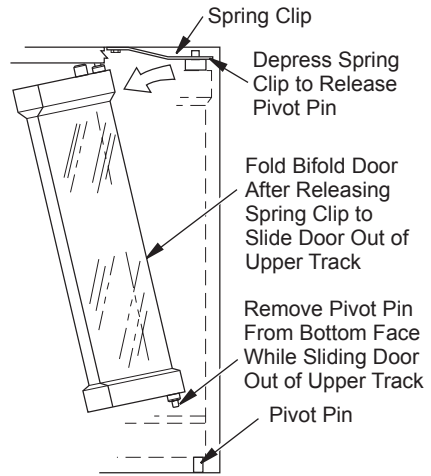

Figure 15 - Installing/Removing Glass Doors
2. With handle facing center of firebox opening insert lower pivot pin on door panel into hole in bottom outer edge of firebox opening (see Figure 15).
2. Fully fold frame assembly and slide upper edge towards center of firebox opening until the guide pins are free of the frame rail (see Figure 15, page 8).